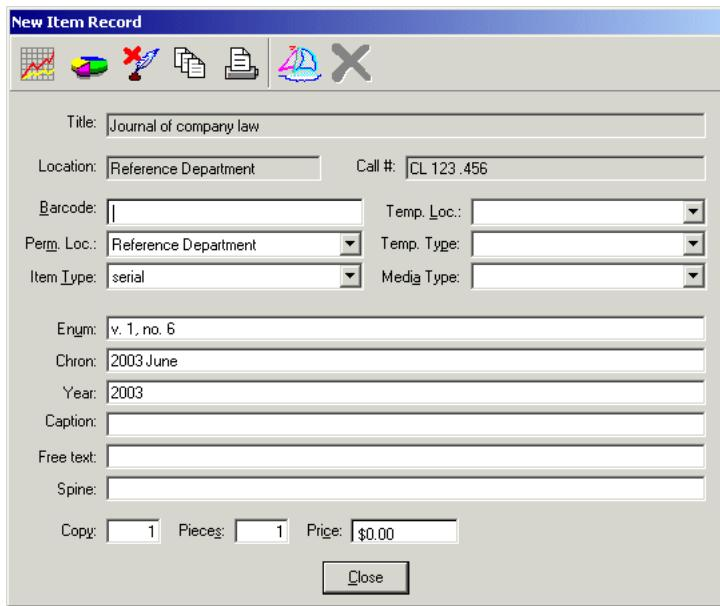
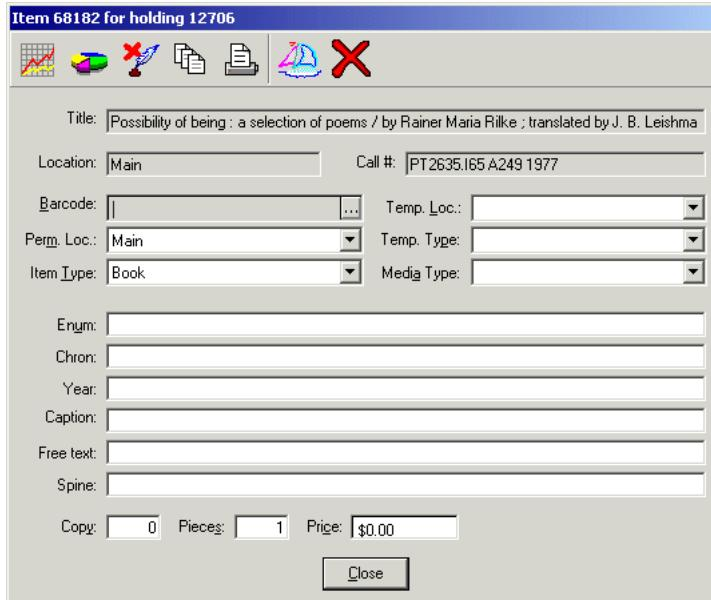

Figure 10-13. New Item Record dialog box
Figure 10-14. Item Record dialog box (item already created)
- From the **New Item Record** dialog box (Figure 10-13) create an item record. Or from the **Item Record** dialog box (Figure 10-14) edit an item record.
In Figure 10-14 the title bar for an already created item record lists the Item ID and the associated Holding ID.